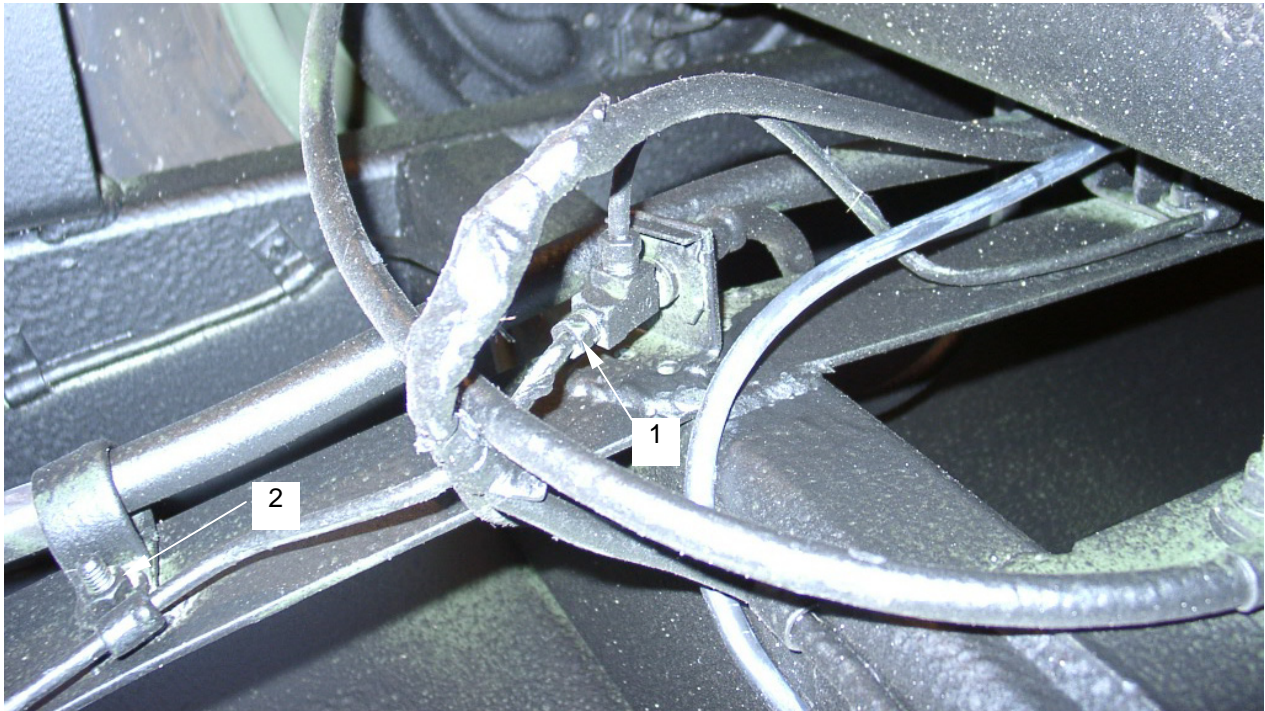

Figure 43. Hard Line To Tee Fitting
- b. Loosen and remove hard line clamp mounting nut (**figure 43, item 2**). Retain hardware.
- d. Connect new hard line to 'tee' (**figure 43, item 1**).
- f. Fasten hard line in place with clamp and tighten mounting nut (**figure 43, item 2**).